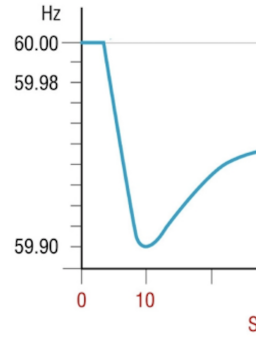

Figure 2: Example of the frequency response on a grid with droop control
**Q.** In Fig. 2, when does the droop control begin to have a significant effect on the frequency?
**Q.** Suppose I know that this disturbance in Fig. 2 was caused by a 10% increase in load. What must the total system droop coefficient be?